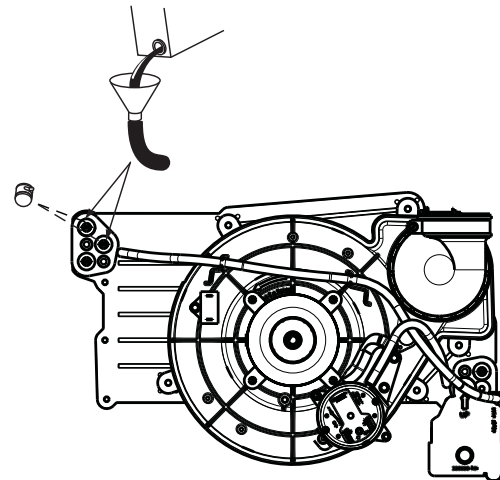

Fig. 62 - Priming Condensate Trap
4. Remove the top unused rubber plug from the port on the collector box opposite the condensate trap. See Fig. 62.
9. Remove the middle unused rubber plug from the port on the collector box opposite the condensate trap. See Fig. 62.